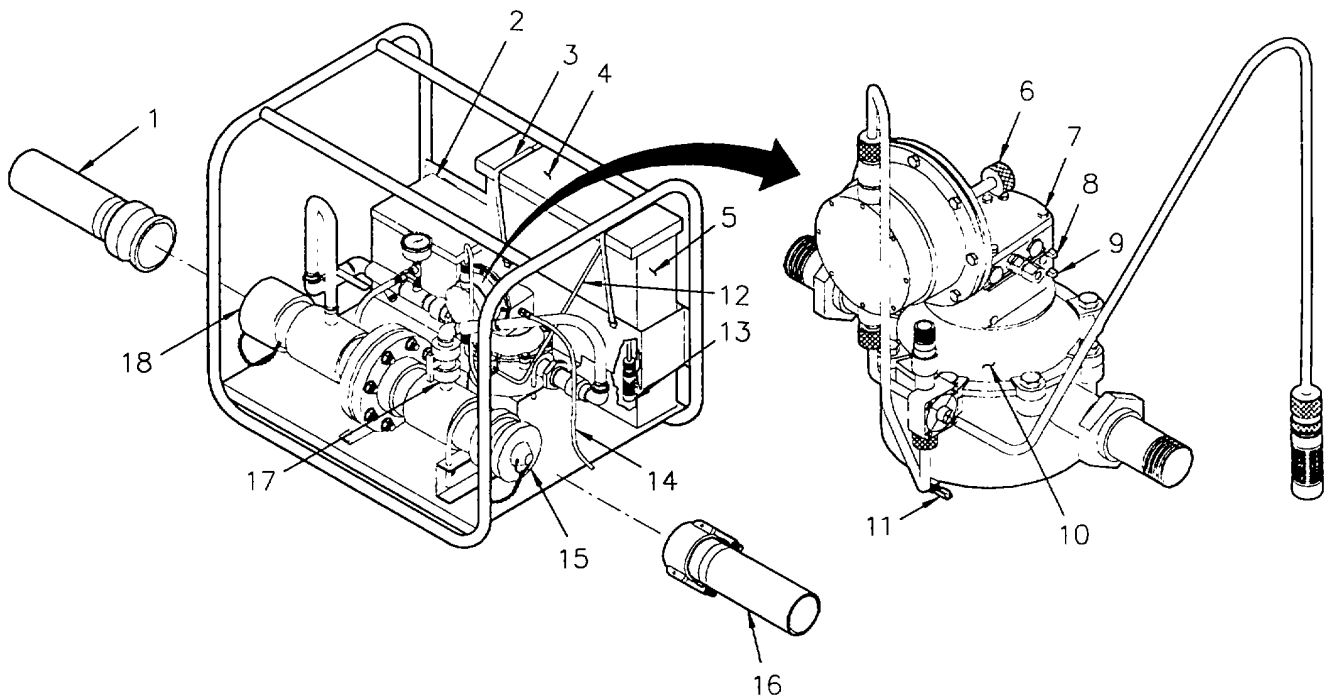

Figure 2-8. Preparation for Movement
- a. Close the outlet ball valve (17, Figure 2-8).
- b. Loosen velcro straps (3), and remove reservoir lid (4).
- c. Pull suction tubing (12) until foot valve (13) contacts side of reservoir (5). Lift reservoir from unit and dispose of contents in accordance with FM 10-52-1.
- d. Flush reservoir (5) with water and dispose of contents in accordance with FM 10-52-1.
- e. Put reservoir back in place. Push tubing back through hole in reservoir until foot valve (13) is back in original position and fill reservoir (5) half full of source water.
- f. Open outlet ball valve (17).
- g. Set stroke adjusting knob (6) to 10 and allow water to flow through mainline for at least 5 minutes in order to flush out chemical suction and discharge lines and clean out all hypochlorite solution. Remove foot valve (13) from reservoir (5), and allow unit to continue to pump to expel all water out of pumphead.
- h. Shut outlet ball valve (17) after it discharges water out of waste line (14).
- j. Remove reservoir (5) and dump contents to waste. Replace reservoir on unit. Position foot valve (13) in reservoir. Replace lid (4) on reservoir and strap down with velcro straps (3).
- k. Disconnect inlet (1) and outlet (16) lines to the manifold assembly. Open outlet ball valve (17).